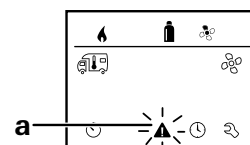

Fig. 25
1. Select the icon ("Fig. 25") with the rotary push button.
In this case, the error is not acknowledged in the CP plus VarioHeat and the warning icon (Fig. 25) remains. The appliance remains in error status. Other connected appliances can be operated.
1. Select the warning symbol (Fig. 25) with the rotary push button.